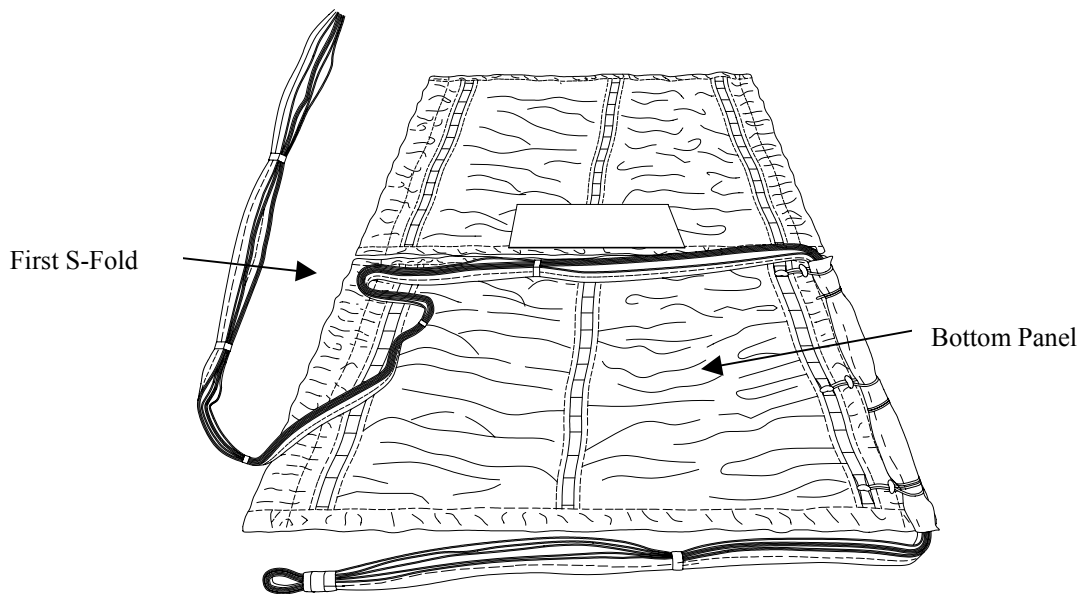

Figure 6. First S-Fold of Extraction Line.
- d. Beginning at the upper left corner of bottom panel, make first S-fold/stow of extraction line and secure with previously installed type I, 1/4-inch cotton webbing (figure 6).